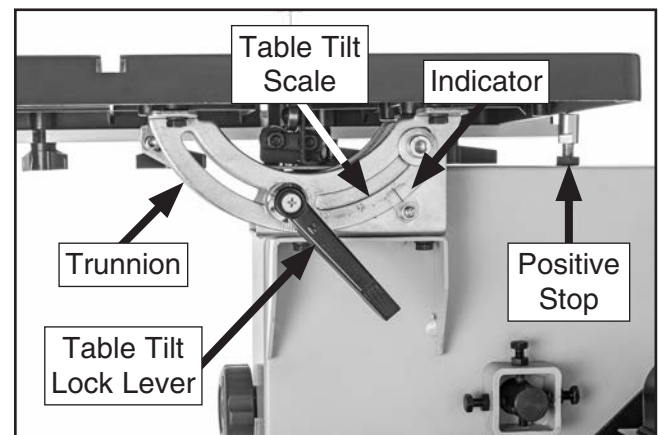

Figure 38. Table tilt controls.
The table can be tilted from 0° – 45° right to make beveled cuts. A table tilt scale with indicator is provided on the trunnion, and a positive stop is provided for quickly returning the table back to 0° from a right-tilt setting (see **Figure 38**).
2. Loosen table tilt lock lever (see **Figure 38**).
2. Loosen table tilt lock lever (see **Figure 38** on **Page 32**).
3. Tilt table to desired angle, then secure position by tightening table tilt lock lever (see **Figure 38** on **Page 32**).